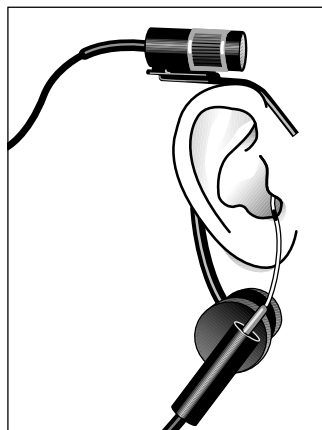

Figure 8.2.2B
6. Insert the probe tube into the client's ear so that the mark is at the location where the bottom of the outer surface of the earmold will be. See Figure 8.2.2B.
Hints: To help keep the probe tube in place, position the tube so that it runs through the tragal notch, resting against the lower edge of the tragus (Figure 8.2.2B). If necessary, reposition the body of the probe microphone lower on the Velcro button of the ear hanger. If desired, use surgical tape to hold the tube in position.